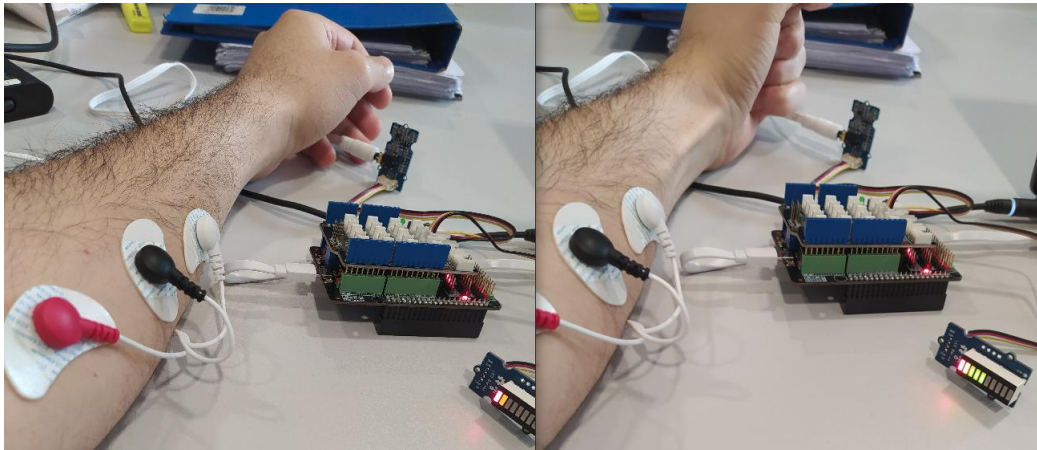

Figure 14.3: Example Experiment with EMG Sensor
- **Placement** (Figure 14.3):